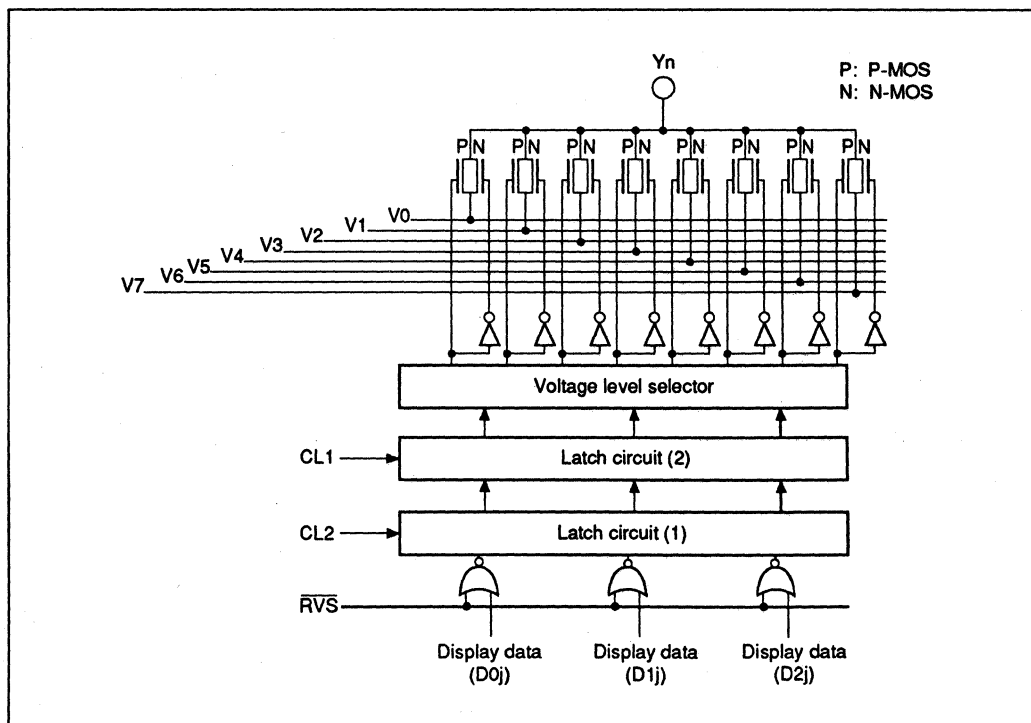

Figure 4 LCD Driving Circuit
The HD66310 internal circuit unit for one data output is shown in figure 4. The circuit receives 3-bit data (D0j, D1j, D2j) and selects one of eight voltage levels (V0-V7) to output to the LCD.
- As shown in figure 4, the data reverse circuit is before the latch circuit (1). The LCD driving output is reversed one CL1 period after a transition of the \overline{RVS} signal, as shown in figure